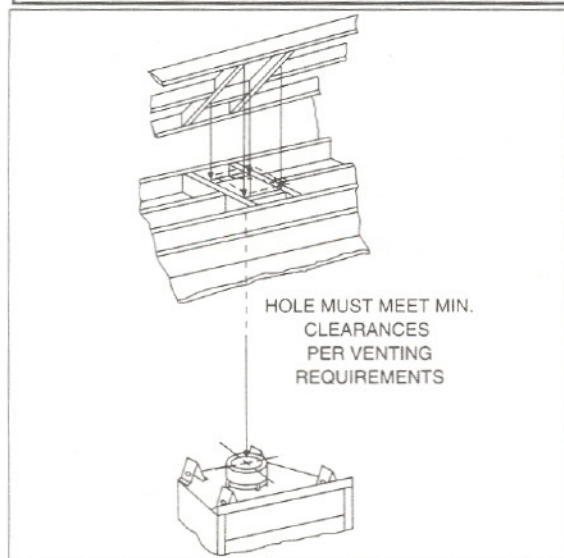

Figure 7
6. **Marking the exit point in the roof.** Locate the point where the venting will exit the roof by plumbing down to the center of the vent system. Drive a nail up through the roof to mark the center. See Figure 7.